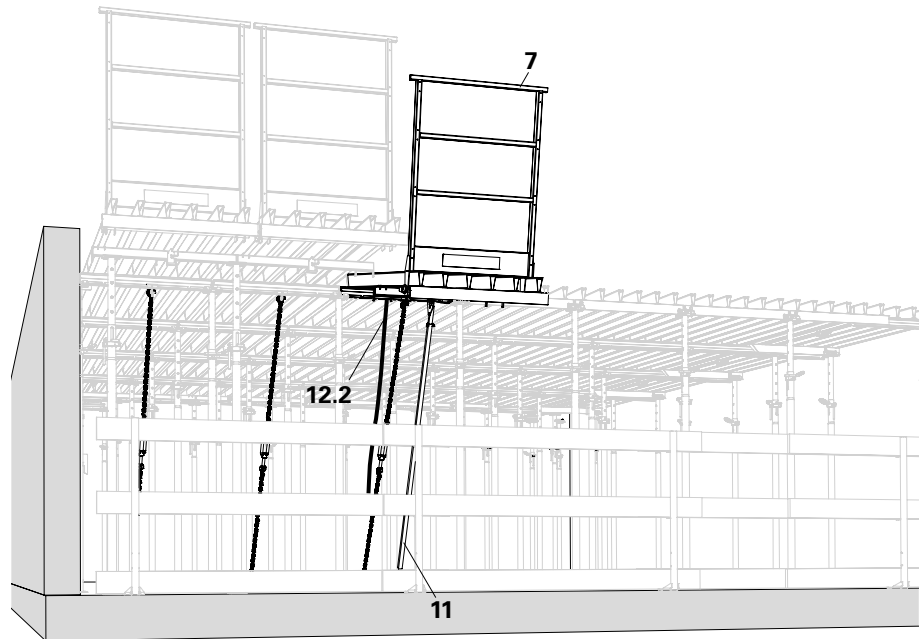

Fig. A7.09
7. Swivel the guardrail unit (7) on the Traverse GF 100 (5) upwards with Shuttering Aid GFA (11). (Fig. A7.09)